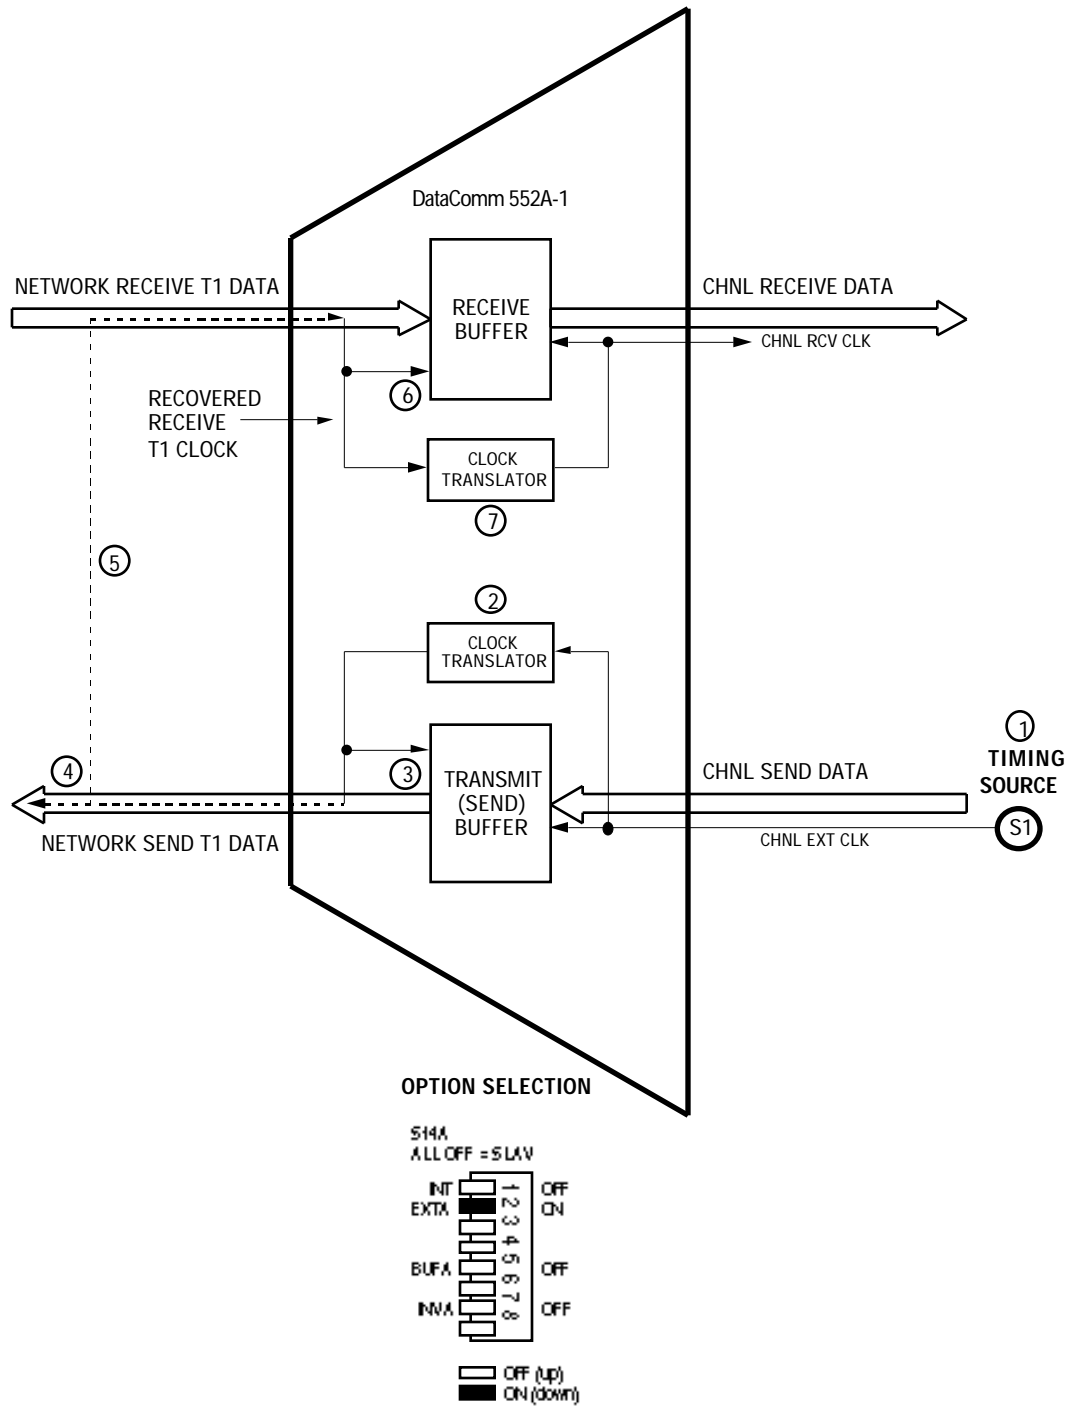

FIGURE B-4. CHANNEL TIMING
With Channel Timing, illustrated in Figure B-4, the customer channel equipment provides its own channel transmit clock signal (1) on the appropriate interface lead. The DSU translates (2) this clock to provide the send timing source for T1 data output from the transmit buffer (3) to the network. The remote DSU uses this as its timing reference (4) and loops it back to the DSU (5). The DSU recovers the receive T1 clock from the network receive T1 data and uses it to clock T1 data into the receive buffer (6). The DSU also translates (7) the receive T1 clock to provide the receive clock signal for the channel, on the appropriate interface lead.